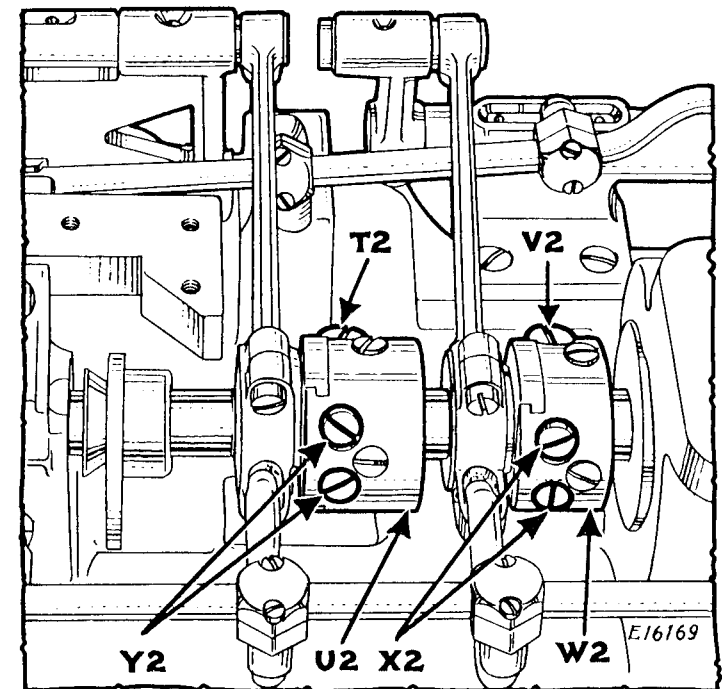

Fig. 8. Feed Regulator
See Fig. 8
**Machine 147-118:** Adjust the feed eccentric **U2**, Fig. 8, in the same manner as instructed on page 10, for Machine 147-117.